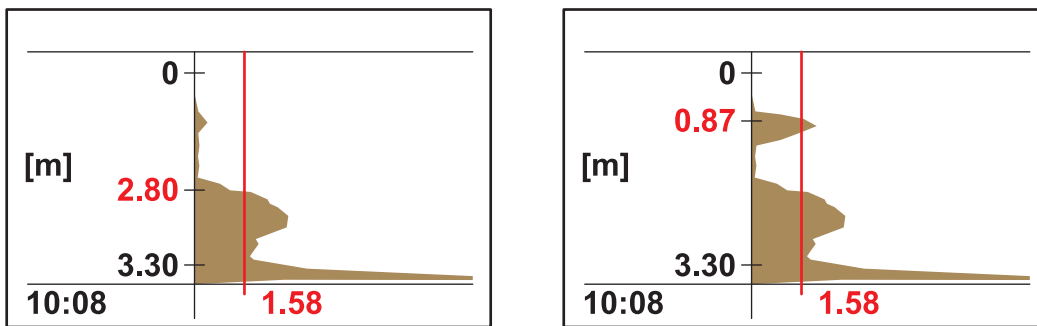

Figure 9 Determine measurement location
- If there are increased values at the depth of the disruptive reflexes in the PROFILE LIST which influence the measurement value, another measurement location must be selected. Sometimes it is sufficient to move the probe by a few centimeters (refer to Figure 9, right).
- If the reflections do not disrupt the measurement value, this can be a suitable measurement location (refer to Figure 9, left).